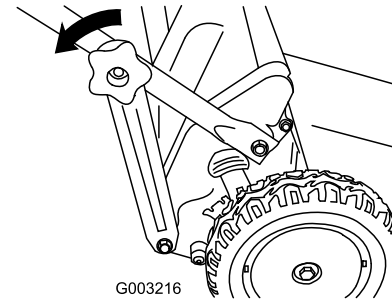

Figure 13
1. Remove the lower handle knobs that attach the handle brackets to the lower handle ends (Figure 13).